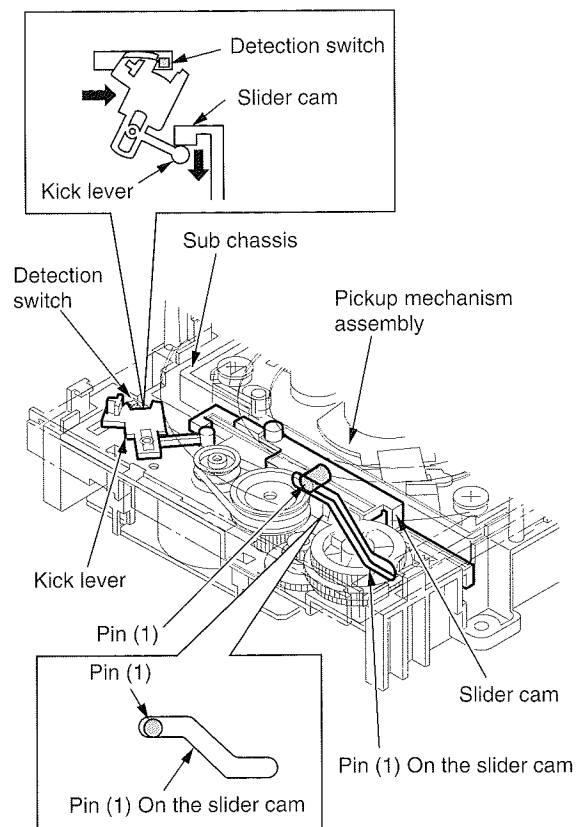
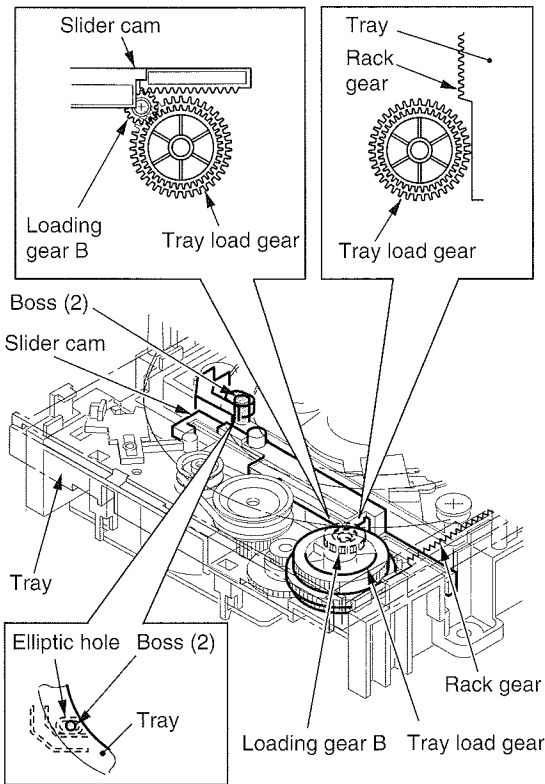

Fig. 1-1
Fig. 1-2
1. A disc is ejected as follows during playing. Fig. 1-1 and Fig. 1-2 show the perspective of the tray in the closed state. The pin (1) of the sub chassis is on the slider cam, and the pickup mechanism assembly is raised. At this time, the slider cam is located at the rightmost position pulling the kick lever, and the kick lever presses the detection switch and turns on.